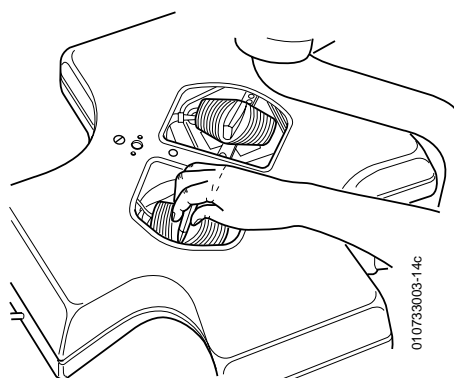

FIG. 3
- 3) Retirer le support de lampe (FIG. 3).